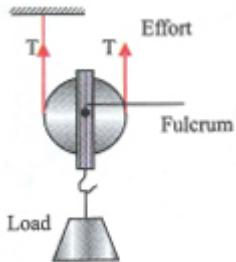

Figure 7.8: Side view of a single movable pulley
In a single movable pulley shown in figure 7.8, the load is attached to the pulley. The effort applied to the rope creates a tension T in the rope. The pulley will be in equilibrium if the total upward force ($2T$) is equal to the total downward force (L). Load $L = 2T$ and the effort $E = T$. If the pulley is without friction, the mechanical advantage (M.A.) = 2.